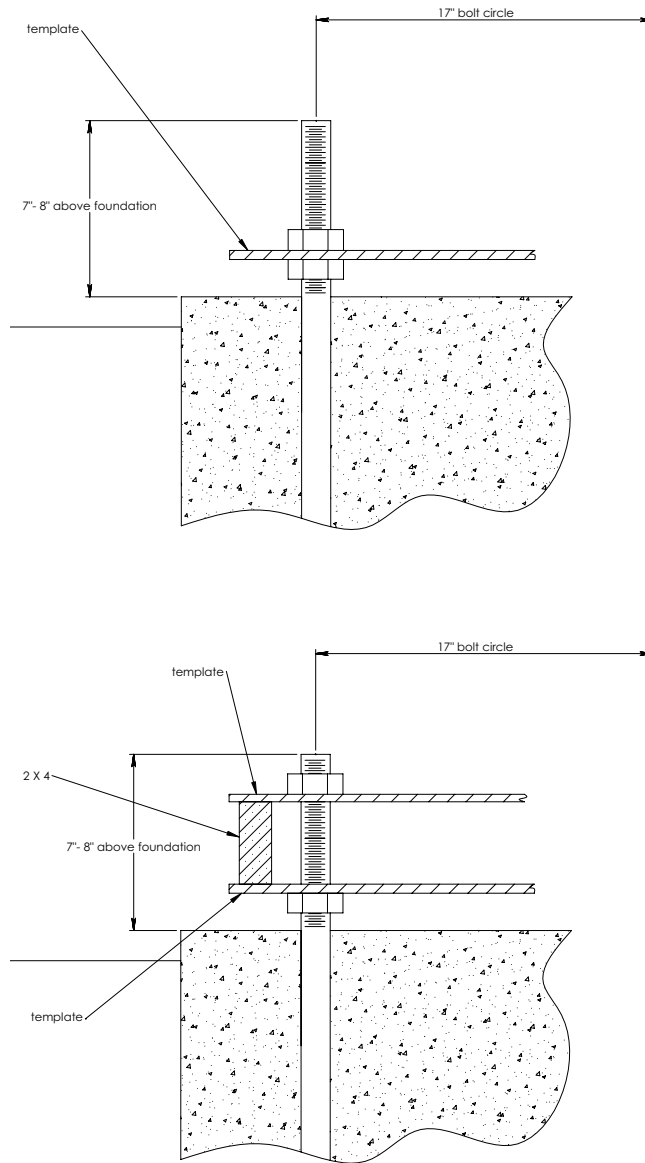

Fig. B5 J bolts and template
- Adjust the “J” bolts to extend 7 – 8 inches (17.8 cm-20.3 cm) above foundation as shown in Figure B5.